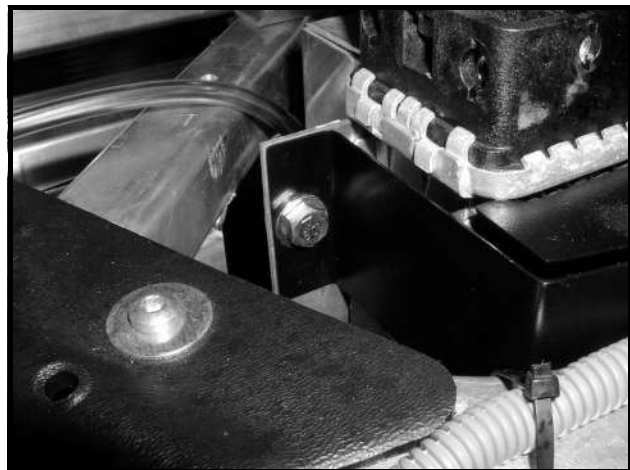

Figure 15-9 Top Radiator Guard
12. Remove the two bolts and nylon locknuts from the top radiator guard (**Figure 15-9, Page 15-6**).
7. Install the top radiator guard (**Figure 15-9, Page 15-6**). Tighten the bolts and nylon locknuts to 21 ft-lb (28 N·m).